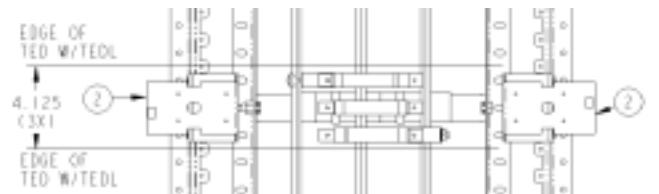

Figure 5a. Mounting bracket installation.
5. Install the circuit breaker mounting bracket. Fasten the circuit breaker mounting bracket [2] to the panel side rail using the thread-forming screws [1], as shown in Figures 5a and 5b. Tighten the thread-forming screws to 30 in-lb.